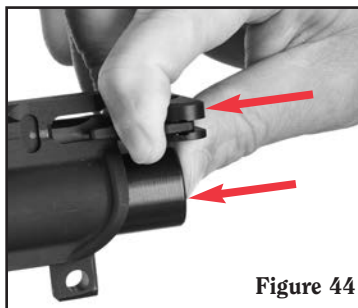

Figure 44
- d. The bolt carrier will not fall out of the upper receiver as long as the charging handle is locked onto the upper receiver. (See Figure 44.)